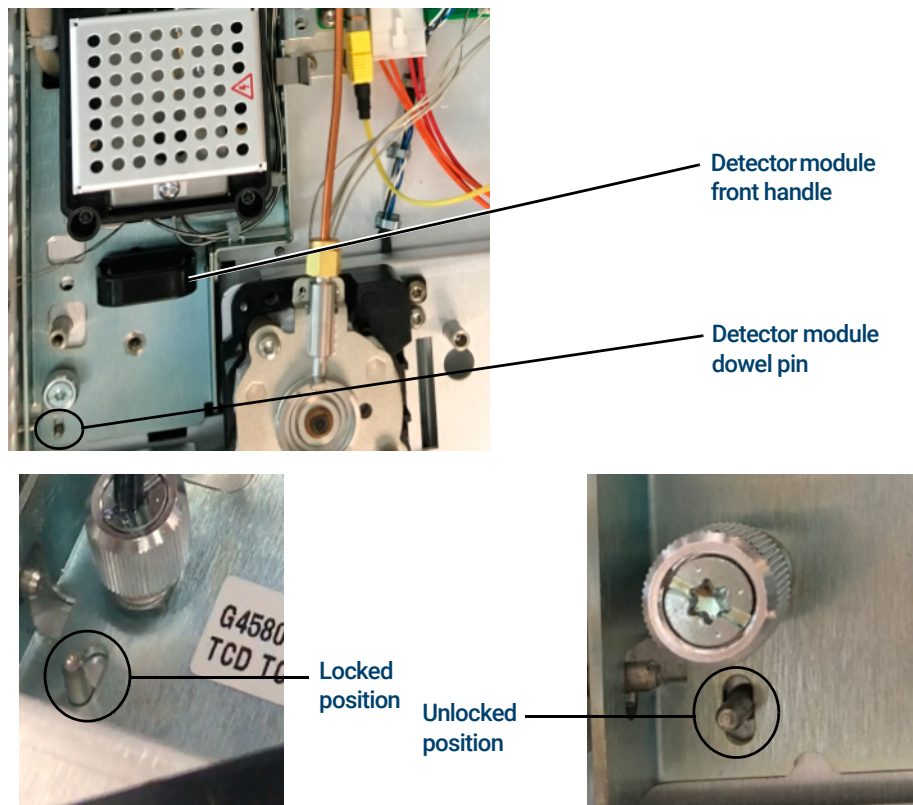

Figure 12. Detector module dowel pin and front handle
- 10** Slide the detector module assembly toward the front of the unit until the detector module dowel pin is in the unlocked position. See **Figure 12**.